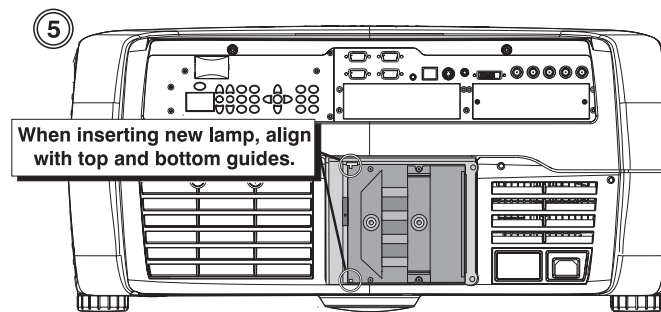

Figure 4.5.
5. Align the new lamp with the top and bottom guides on the left side of the lamp compartment. (Figure 4.5.) Slide the lamp all the way in – a slightly harder push may be required right at the end to make sure it is fully seated into the terminal block. *NOTE: The projector will not power up again if the lamp is not fully connected to the terminal block.*